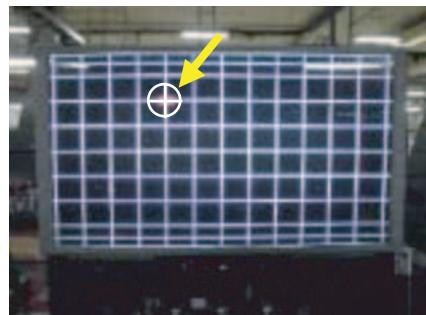

Fig. 1
a) Press Service Switch on DEF/Conv PWB, then display "Normal Crosshatch". (Fig. 1)
f) Press [MENU] key on R/C again, then display "Normal Crosshatch" again. (Fig. 1)